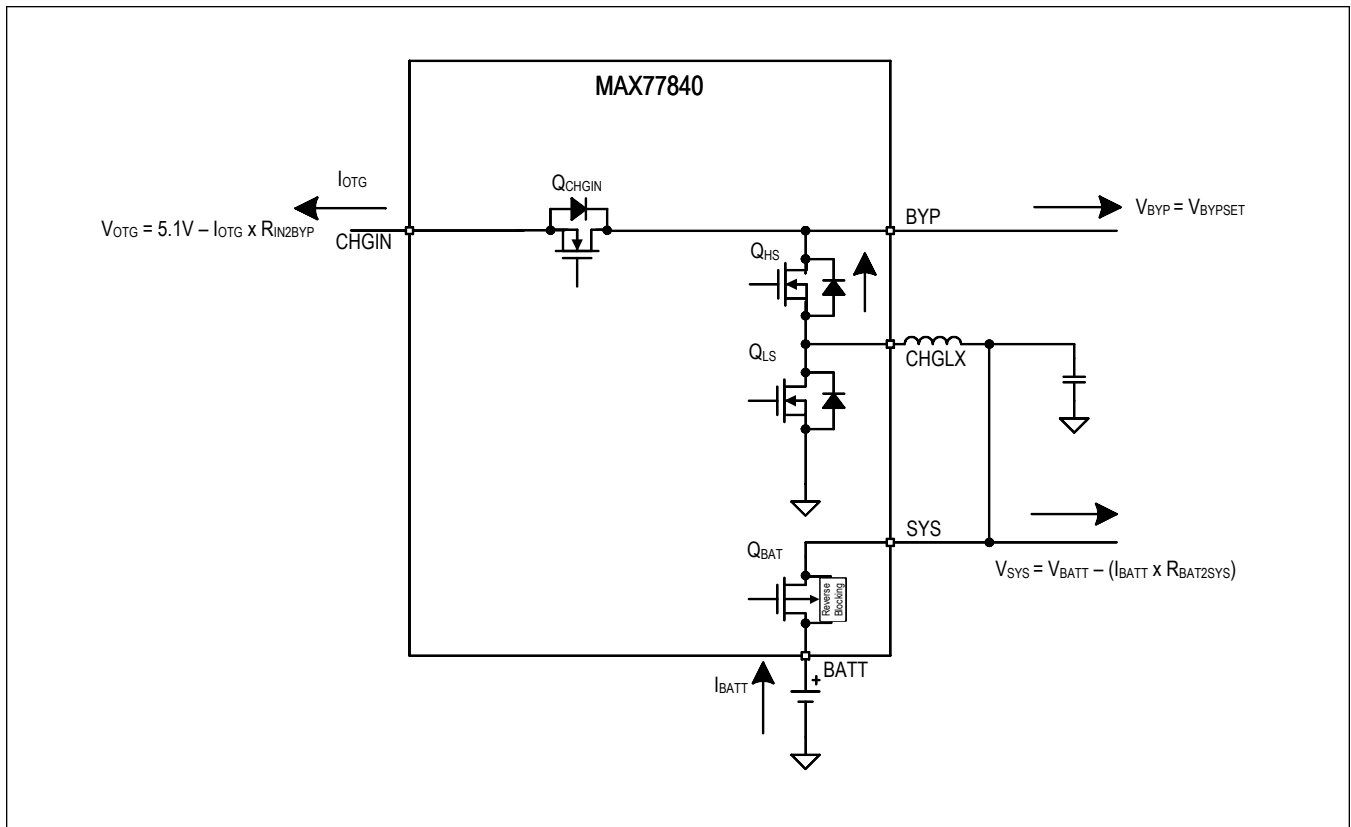

Figure 6. Battery-Boost (OTG)
4. BATTERY-BOOST (OTG), MODE = 0x0A: OTG is active ( $Q_{CHGIN} = \text{on}$ ). Battery is connected to support SYS and OTG loads ( $Q_{BAT} = \text{on}$ ), and charger is operating in Boost mode (Boost = on), see Figure 6.